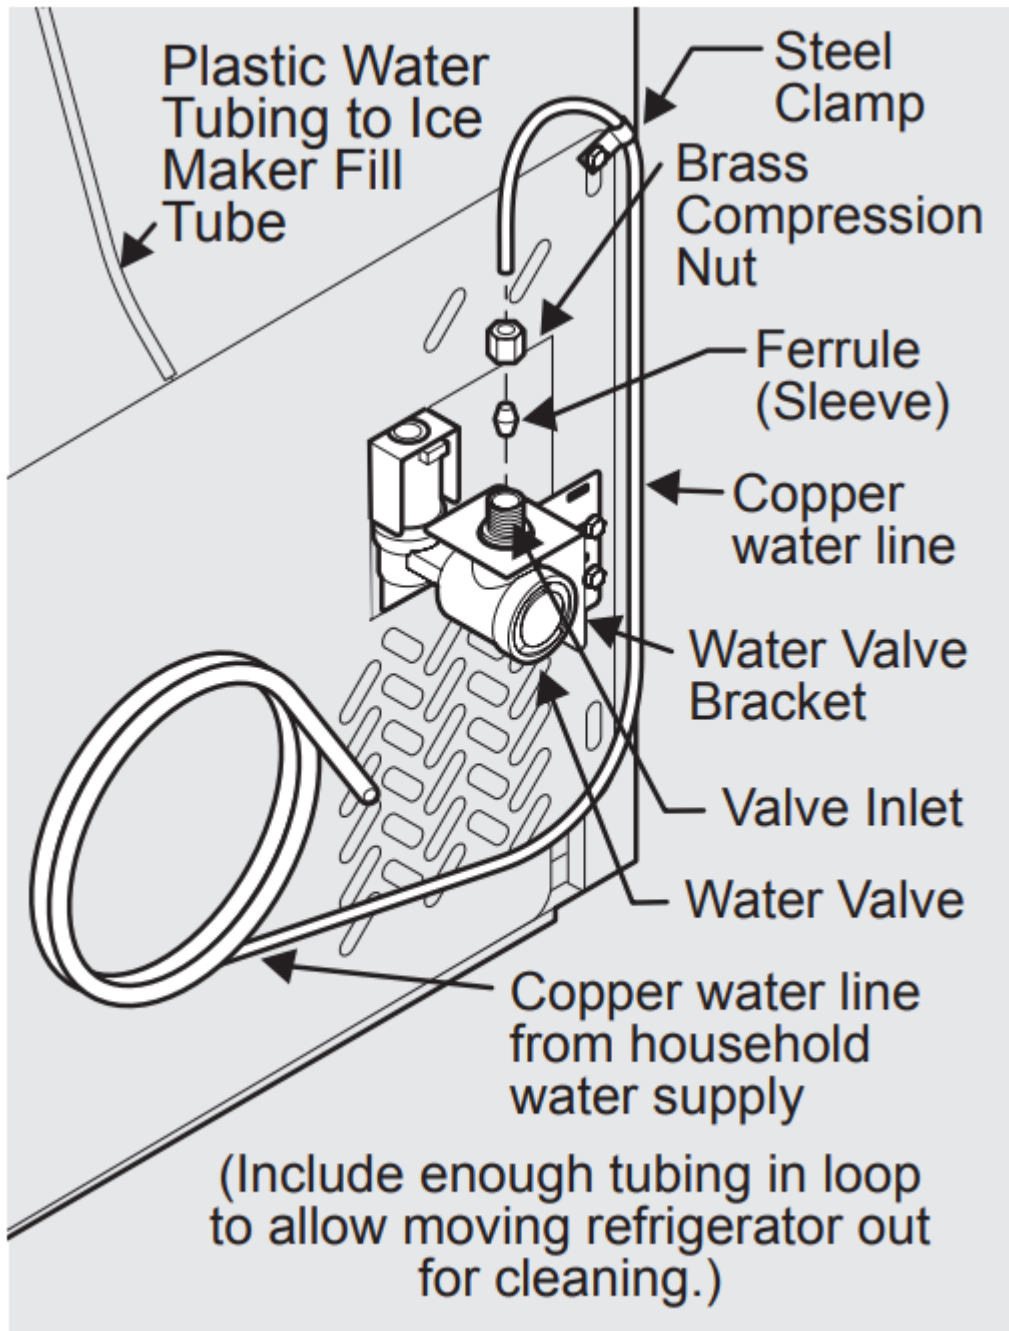

Figure 1
- 4** If you use copper tubing - Slide brass compression nut, then ferrule (sleeve) onto water supply line. Push water supply line into water valve inlet as far as it will go (1A inch/6.4 mm). Slide ferrule (sleeve) into valve inlet and finger tighten compression nut onto valve. Tighten another half turn with a wrench; DO NOT over tighten. See Figure 1.